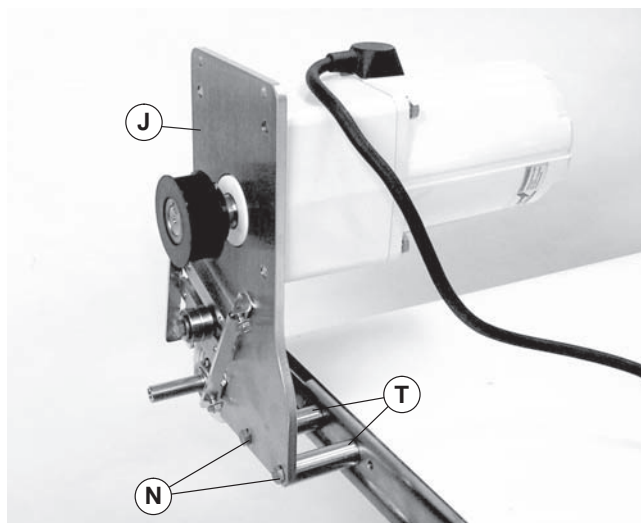

Figure 4
For a 7300 Series mounting package (shown in Figure 4), install two spacers (T) (shipped loose) between the mounting plate/gearmotor assembly (J) and the conveyor. On a 7200 Series, the two spacers are attached to the mounting plate/gearmotor assembly.
3. Attach mounting plate/gearmotor assembly (J) and two spacers (see Note) with screws (N). Tighten screws to 92 in-lb (10.4 Nm).